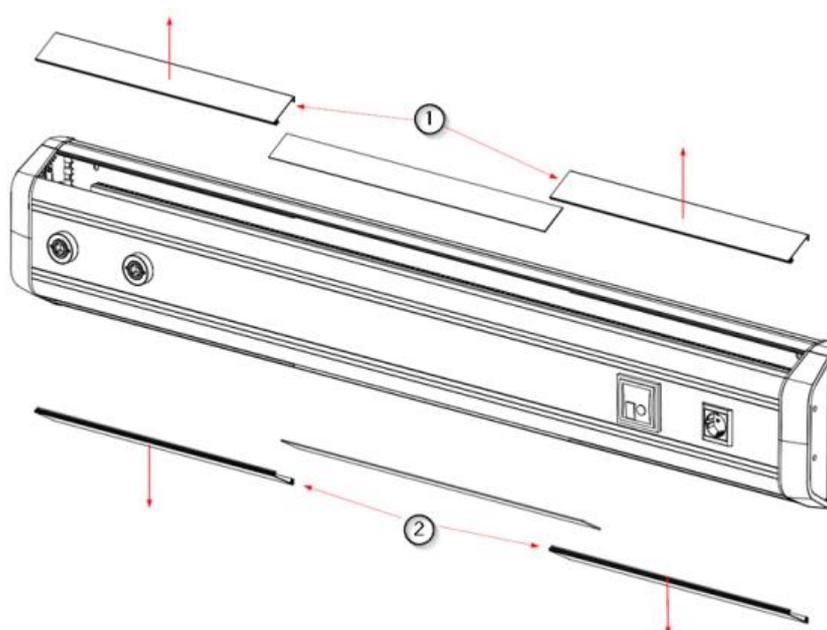

Fig.2 Removal of top and bottom coverings
- Remove the diffusers as described in the previous chapter. You now have access to the side of the upper ① and lower ② covers.
- Remove the top covers ① and bottom covers ② as shown in figure 2 and leave them in a safe place.